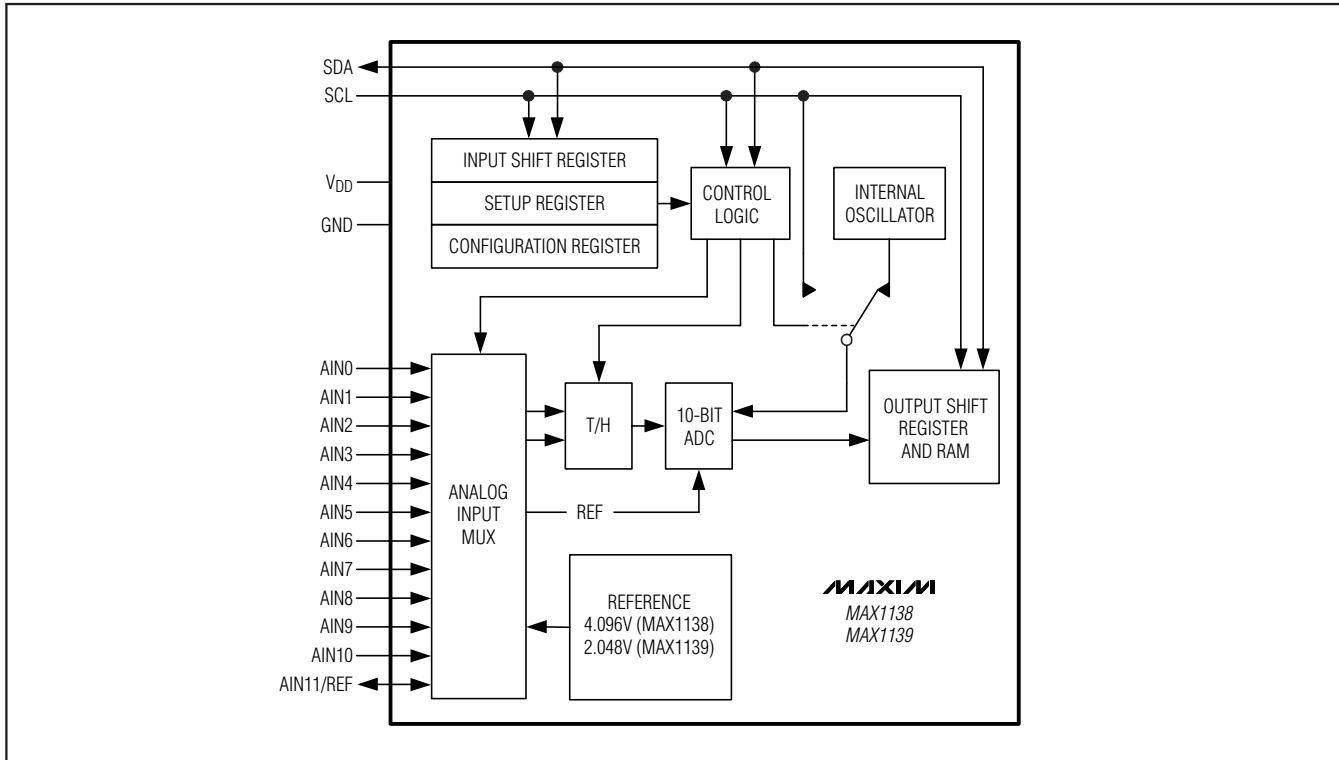

Figure 2. MAX1138/MAX1139 Functional Diagram
1.7MHz. Figure 2 shows the simplified internal structure for the MAX1138/MAX1139.